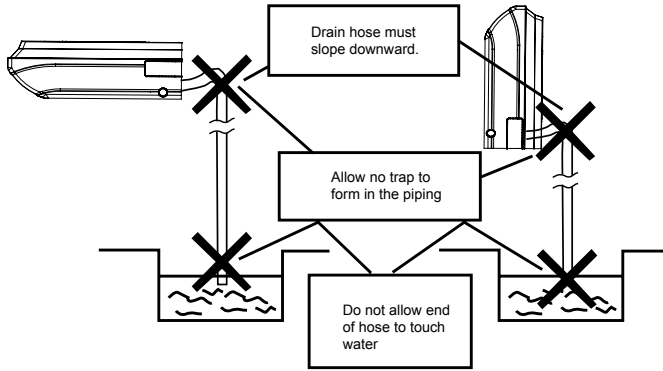

Fig.23
(4) Connect the drain hose.(Fig.23)